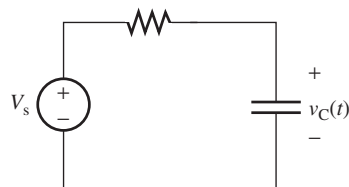

FIGURE P5.3 Circuit for Problem 5.3.
- 5.3** (B)* Find an expression for $v_C(t)$ in Figure P5.3 given that $v_C(0) = 0$. (The switch closes at $t = 0$.)